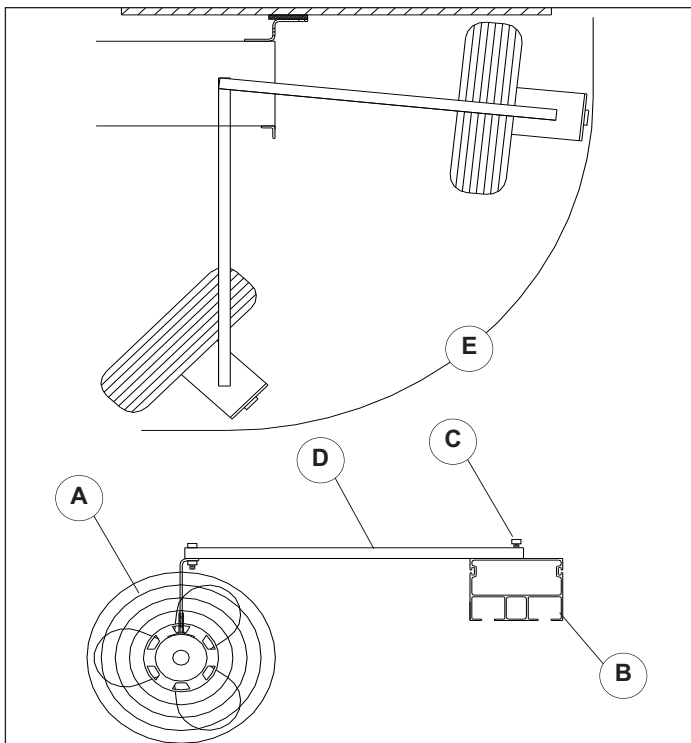

Figure 24.1
1. The fans (A) are mounted to the header (B) wired directly into the control box and match the voltage of the door.
2. Adjust the fan by loosening hardware (C) and rotating bracket (D) to blow the greatest amount of air on the lowest 4' [1219] of the wall seal to minimize moisture, ice or frost buildup, **Figure 24.1**.